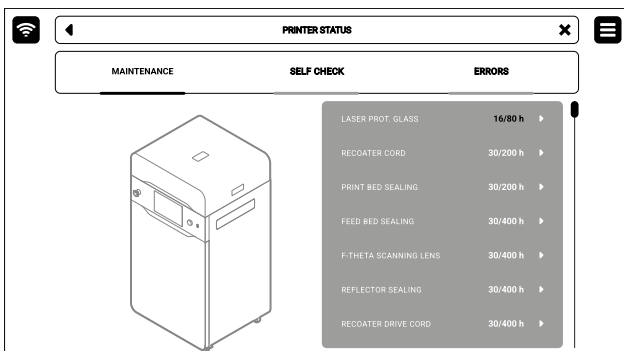

Fig. 13.6 Select the **LASER PROTECTIVE GLASS** position to start the maintenance.
1. On the **PRINTER STATUS** tab, select the **LASER PROTECTIVE GLASS** position (fig. 13.6).